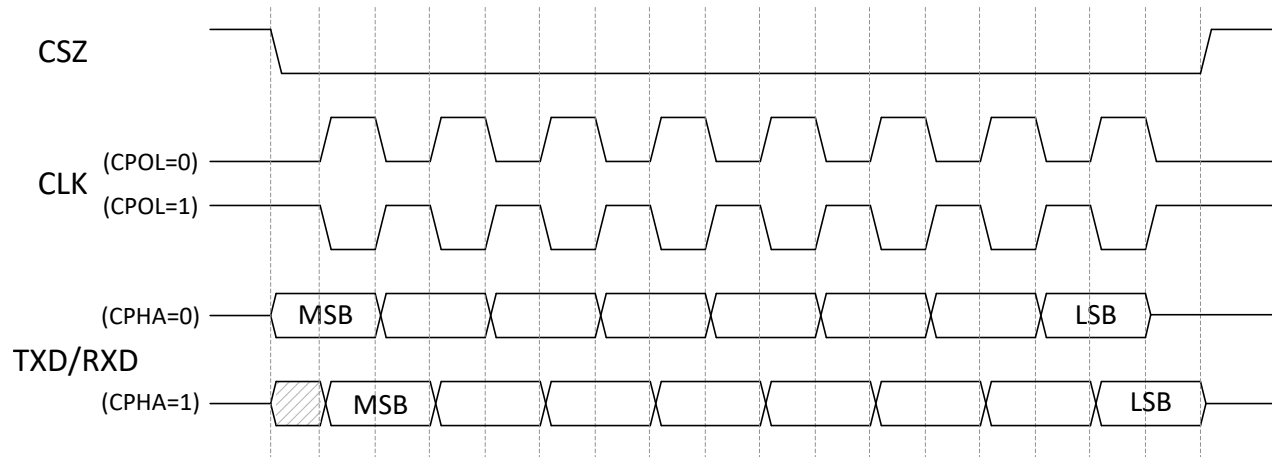

图 6-15. Timing Diagram for SPI Clocking Modes
- (1) The DLPC6540 SPI interfaces support SPI Modes 0, 1, 2, and 3 (that is, both clock polarities and both clock phases) as shown in 表 6-2 and 图 6-15. As such, each SPI interface configuration must be setup to match the SPI mode being used.
- (2) In most SPI applications, one clock edge is used by both master and slave devices for transmitting data while the other edge is used by both for sampling received data. This is referred to as *Standard SPI Protocol*. To maximize the SPI_CLK frequency potential, SPI masters can alternatively be designed to sample the data in (MISO) bit on the same clock edge used to transmit the next data out (MOSI) bit. This is referred to as *Enhanced SPI Protocol*. The DLPC6540 SPI master implementation supports both protocols (part of